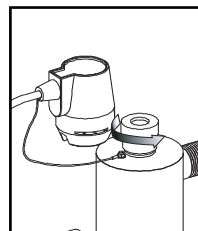

FIGURE 3A
- c) Remove aluminum gland nuts from chamber (Figure 3A), checking for the free floating spring inside sleeve at the opposite end to the lamp connection (do not allow quartz sleeve to fall).